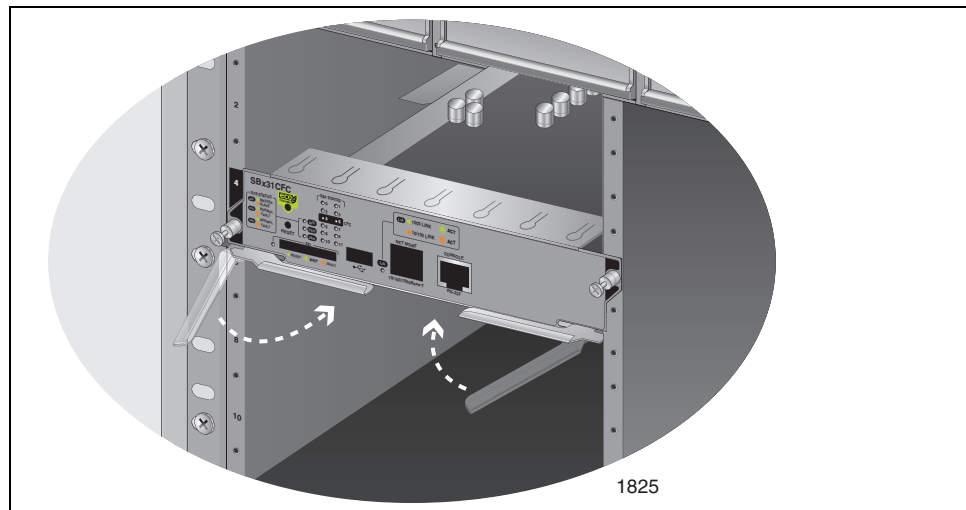

Figure 44. Closing the Locking Lever on the AT-SBx31CFC Fabric Control Card
8. Use the two locking levers on either side of the front panel to tightly seat the card into the backplane connector and secure the faceplate against the chassis front panel as displayed in Figure 44 on page 70.